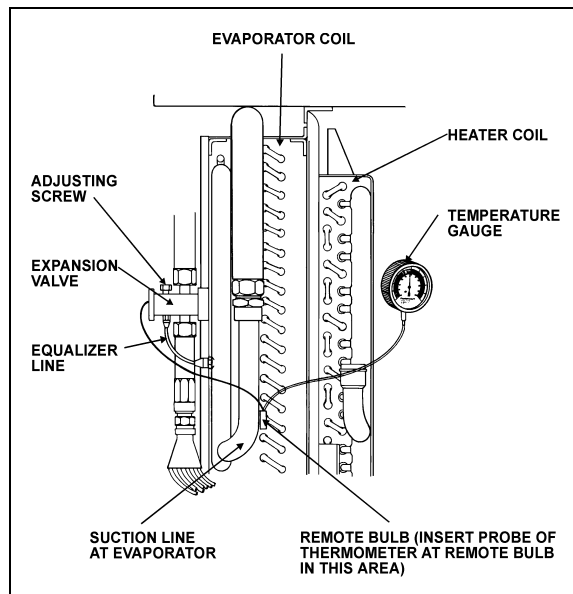

FIGURE 33: SUPERHEAT ADJUSTMENT INSTALLATION²²⁰⁴⁶
The starting method of adjusting the superheat is to unscrew completely the main evaporator expansion valve adjusting screw, then screw in 13 turns clockwise for 134A (Figure 33). Afterwards, the following procedure should be followed:
3. Install a remote reading thermometer to the evaporator outlet line near the existing remote bulb (Figure 33).
The function and operation of the expansion valve for the driver's HVAC unit are similar to the cabin or passenger's HVAC unit but no superheat adjustment is required (see Figure 19 and Figure 33).